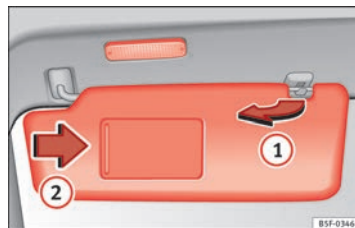

Fig. 69 Sun visor
- The sun visor can be pulled out of its mounting and turned towards the door ⇒ Fig. 69 ①.